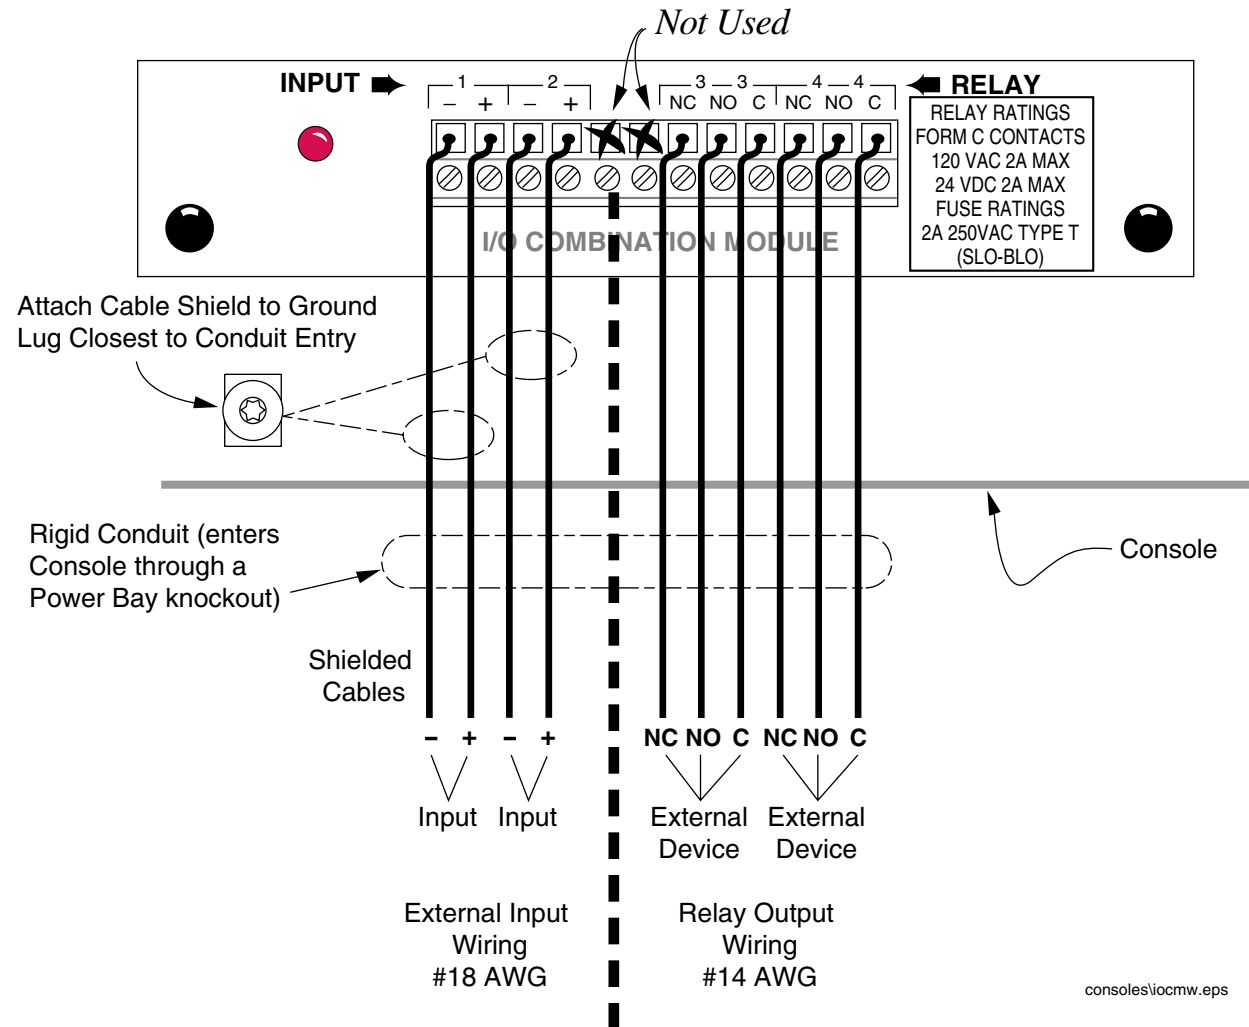

Figure 4. Input/Output Combination Module Wiring Diagram
1. For each external input, connect a shielded cable consisting of two 18 AWG conductors to the appropriate terminals on the I/O Module (see Figure 4).